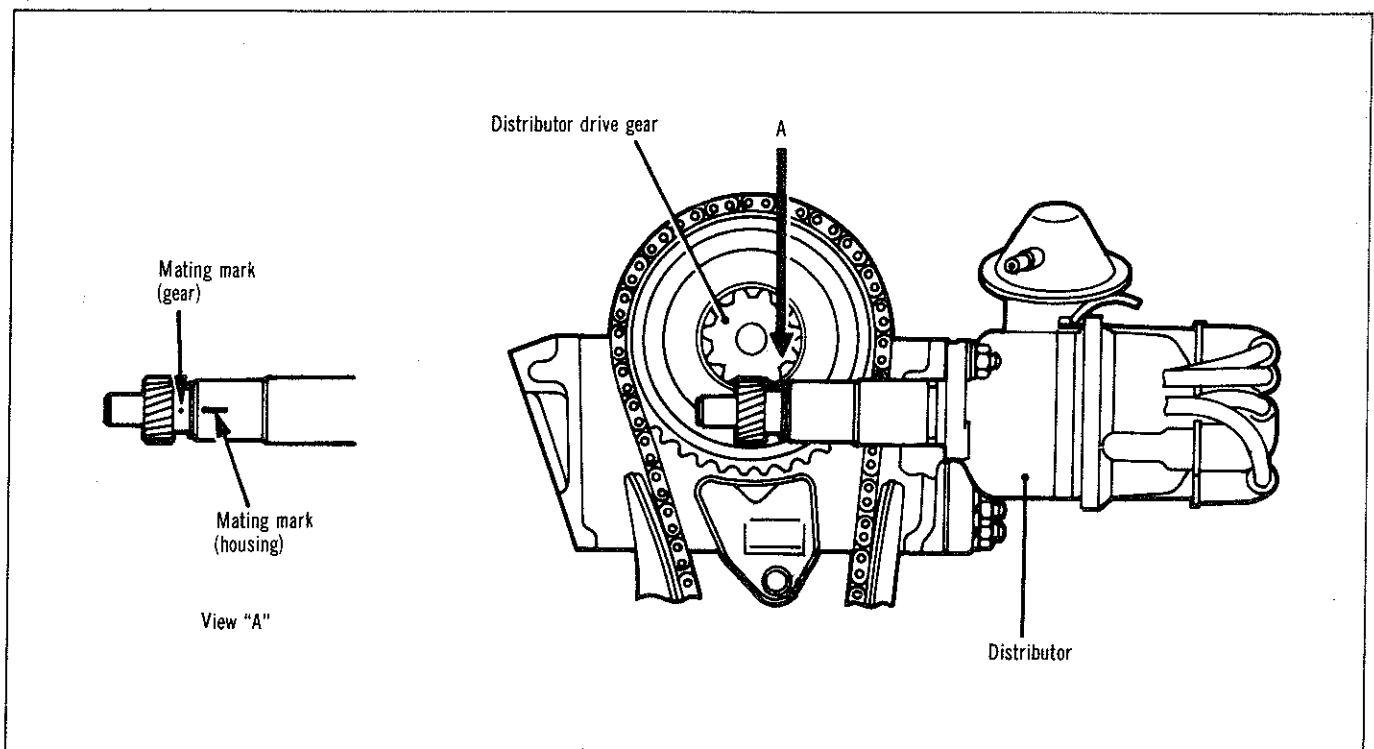

Fig. 5—Installing distributor assembly
- (1) Ensure the crankshaft is positioned at T.D.C. with No. 1 piston on compression stroke.
- (2) Align the mating mark (line) of the distributor housing with the mating mark (dot) of the distributor gear.
- (3) Insert the distributor into the cylinder head with the mating marks uppermost (Fig. 5) and install retaining nuts.
- (4) Adjust breaker point gap if necessary.
- (5) Install distributor rotor and cap.
- (6) Connect high tension leads and distributor primary lead.
- (7) Connect vacuum hose ensuring it is firmly positioned.